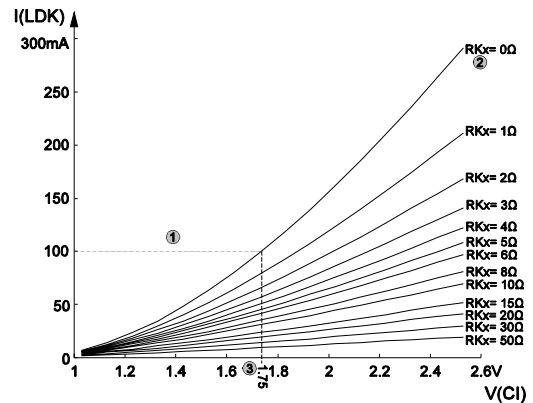
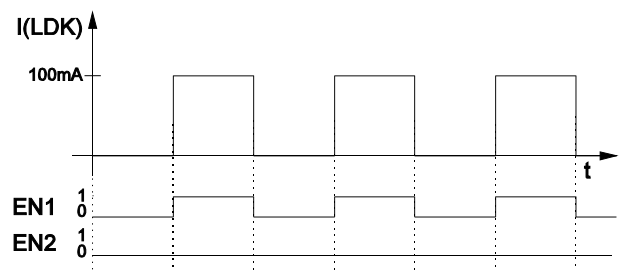

Fig. 1: Determining V(CI) for Example 1 - pulse current of 100mA
Fig. 2: Signal patterns for Example 1 - pulse current of 100mA
3. As shown in Figure 1 (cf. data sheet, Figures 2..4), the required voltage V(CI) for RK = 0Ω is read off at I(LDK) = 100mA as V(CI) = 1.75V
Resistors RKx are not usually required. However for laser diodes operating on very low currents RKx might be necessary due to the lower voltage limit of iC-WK at pin CI. When dimensioning the resistors Figures 2..4 from the data sheet should be referred to as shown in Example 1. Furthermore, the use of resistors RKx can be useful when implementing protection against overcurrent (see page 8, 'Overcurrent shutdown/Laser current limitation').
The value for the other RK_x and voltage $V(CI)$ can be determined using Figures 2..4 from the data sheet.